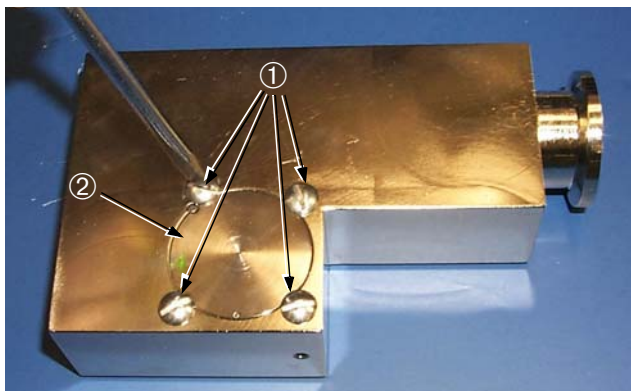

Figure 4-17 Magnetic Pole Piece
1. Remove the 4 slotted screws ① to free the magnet pole piece ② (Figure 4-17).